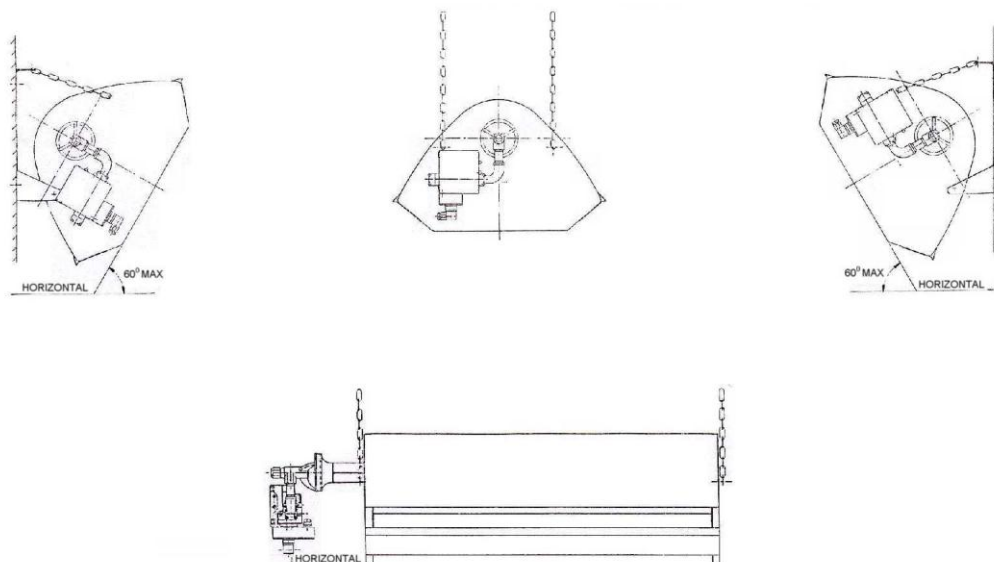

Fig. 1.
- 3.1.3 The appliance must be suspended with its longitudinal axis horizontal, but may have its lateral axis either horizontal or at an angle of up to 60° (maximum) from the horizontal, in either direction, as shown in Fig. 1. below.